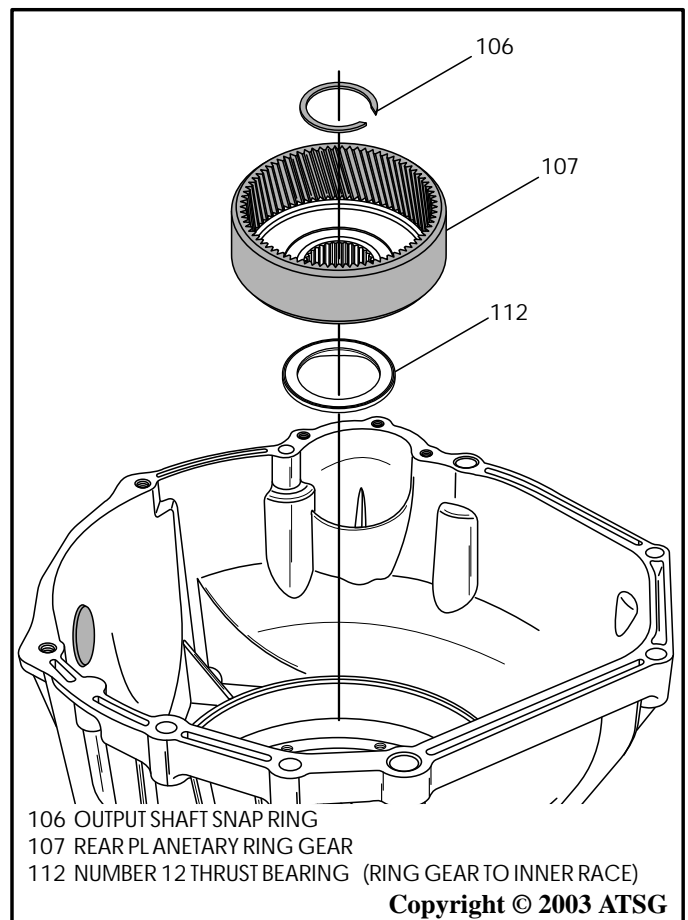

Figure 99
37. Install the number 12 thrust bearing and rear ring gear into case, as shown in Figure 99.
38. Install the output shaft snap ring onto output shaft, as shown in Figure 99